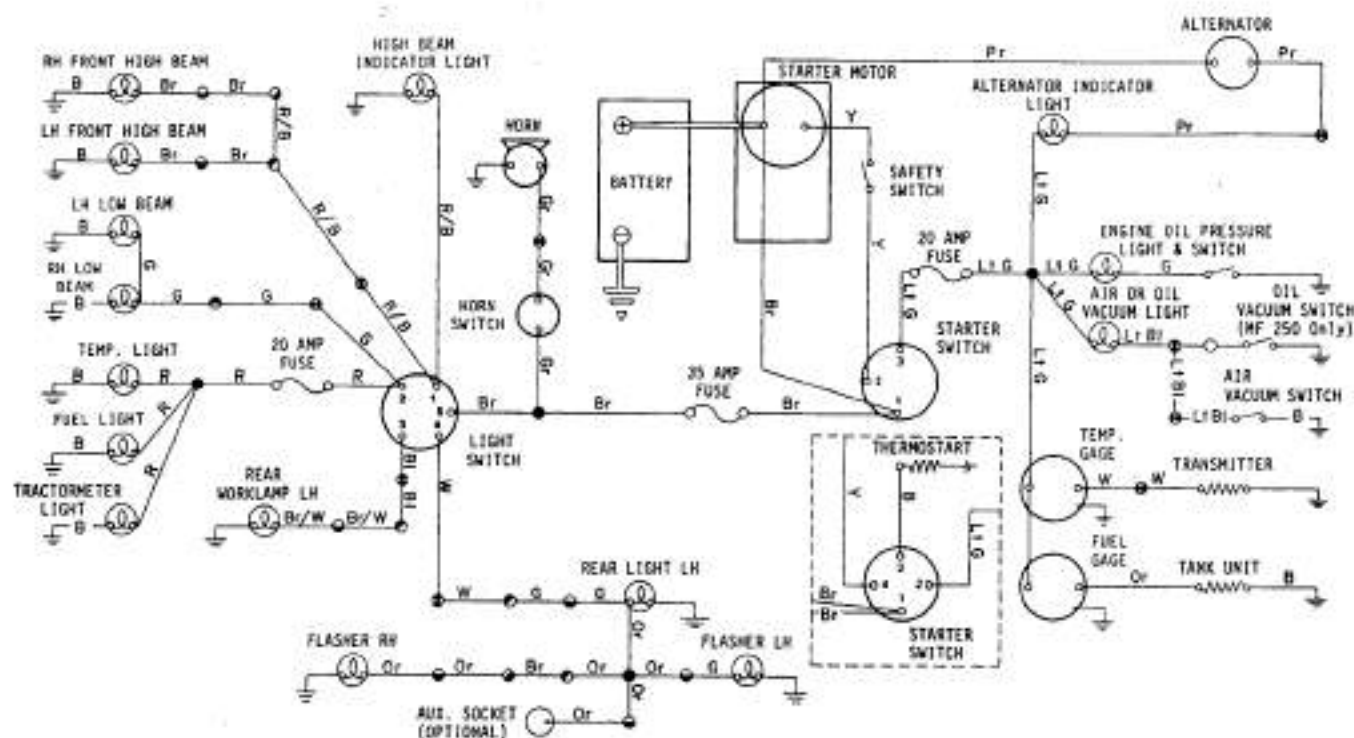

Fig. 250—Wiring diagram for Models MF240 and MF250.
**239.** Refer to the appropriate Fig. 247 through Fig. 250 for tractor wiring diagram. Service procedures covering electrical system components are contained in paragraphs 100 through 109.